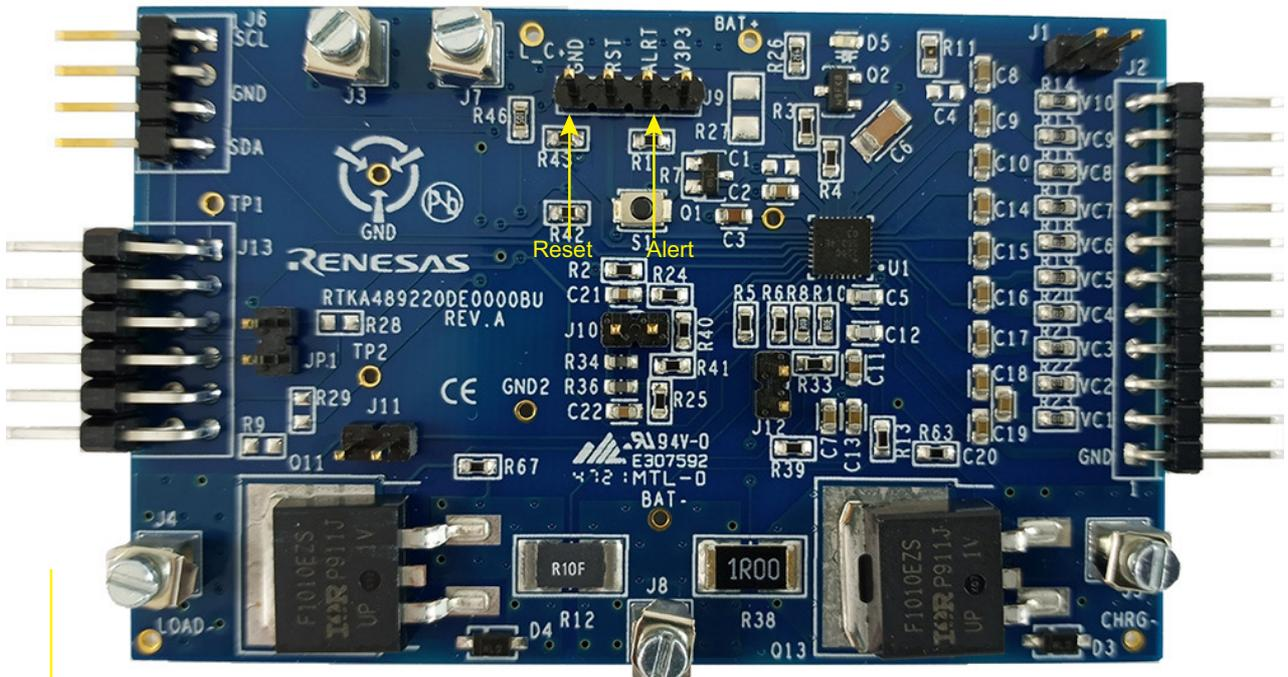

Figure 5. RAA489220 EVK
Renesas recommends using a voltmeter to probe different points of interest on the assembly. By default, Renesas recommends to connect (1) the negative terminal to the GND pin of the 4-pin header on the EVK and (2) the positive terminal to the ALERT pin on the same header. Both pins are highlighted in Figure 5.